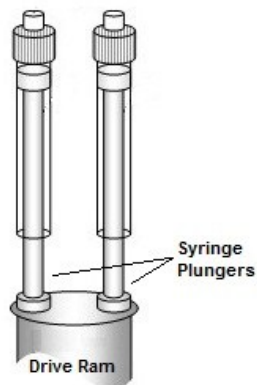

Figure 2
- 2) Fill the drive syringes with fresh liquid. Turn the control valves to the drive (forwards) position. Set the time base to the fastest linear timebase available. Set the triggering to external trigger and choose to do 20 repeats as illustrated in the screenshot below. Make sure that there is no gap between the drive ram and the syringe plungers (see Figure 2). Click on Acquire. 20 shots will be fired through the optical cell and flow lines.